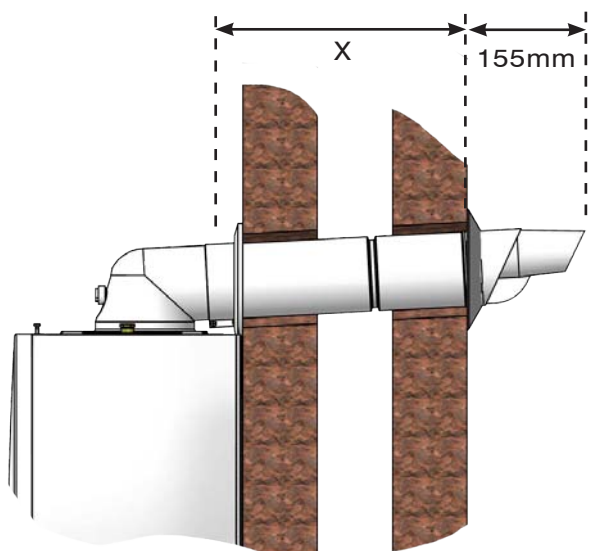

Fig. 1
- 1.5 Take a measurement from the outside of the wall to the edge of the turret dimension "X" Fig. 1.